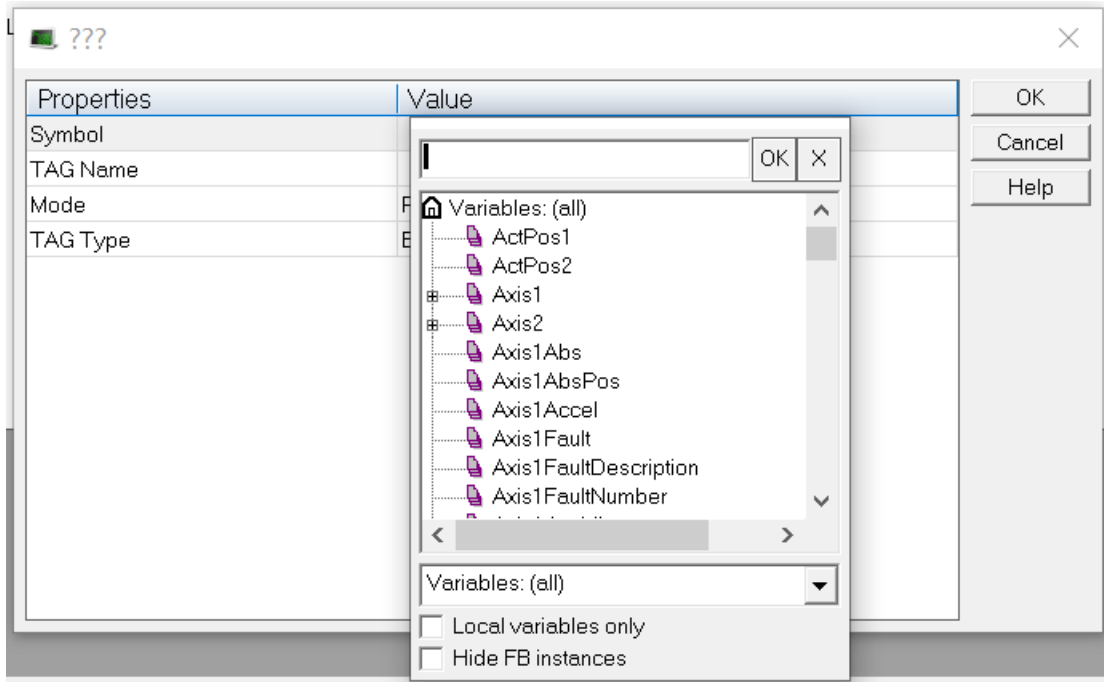

Figure 2-14: Variables combo-box
3. In the Symbol row, double-click the **Value** column cell to open the **Variables** combo-box. (Figure 2-14)